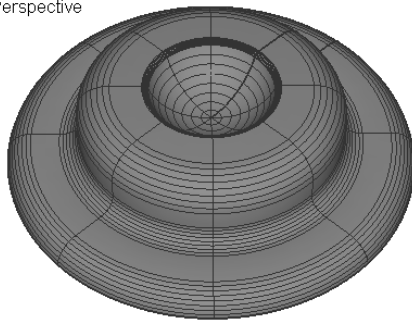

Figure 7-53 Base feature created
14. Select the joined profile; the base feature is created, as shown in Figure 7-53.